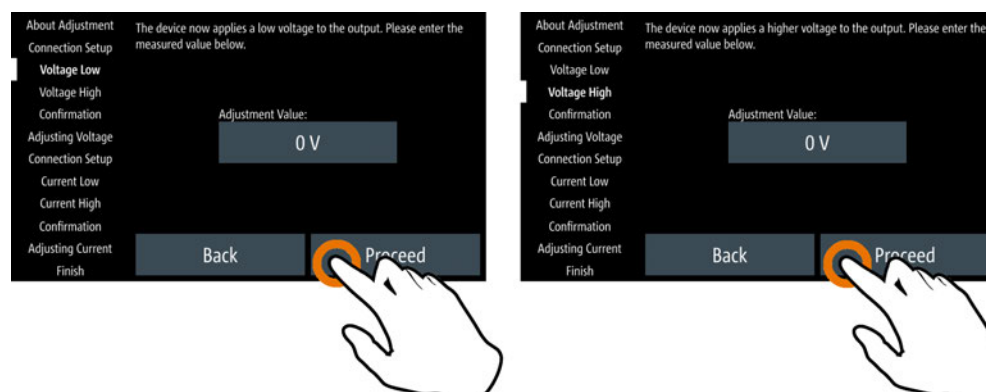

Figure 7-76: Channel adjustment procedure
5. Follow the on-screen instructions displayed in the Figure 7-75. The R&S NGP800 applies a low voltage/current followed by a high voltage/current for voltage/current adjustment. Key in the measured value from DMM using the on-screen keypad. See Figure 7-76.